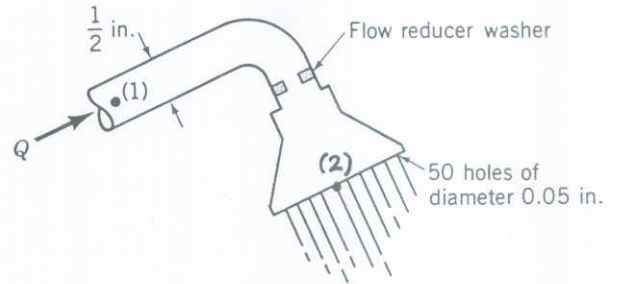

FIGURE P8.61
8.61 To conserve water and energy, a "flow reducer" is installed in the shower head as shown in Fig. P8.61. If the pressure at point (1) remains constant and all losses except for that in the "flow reducer" are neglected, determine the value of the loss coefficient (based on the velocity in the pipe) of the "flow reducer" if its presence is to reduce the flowrate by a factor of 2. Neglect gravity.